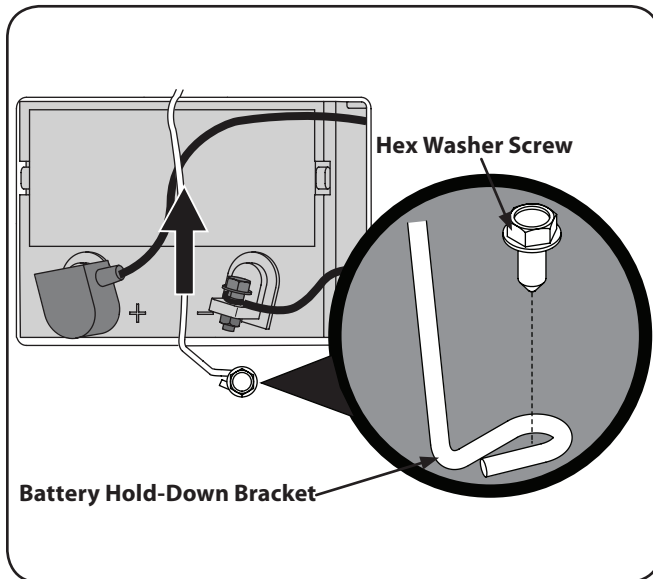

Figure 7-1
1. Remove the hex washer screw securing the battery hold-down bracket to the frame. Then flip the battery hold-down bracket up to free the battery. See Figure 7-1.